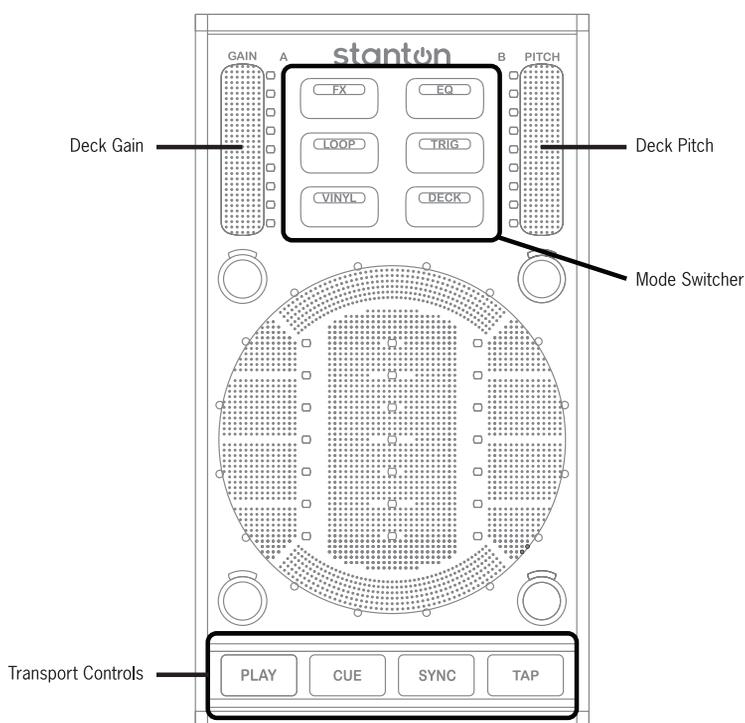

Figure 6.13
6.3.1.1 Static (Global) Controls (Figure 6.13)